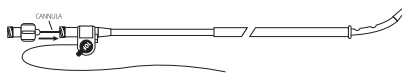

Figure 5
3. Slide pigtail straightener along distal portion of catheter to straighten curve prior to placing the stiffening cannula into the catheter. Place the stiffening cannula into the catheter and tighten the luer lock fittings. See Figure 5.